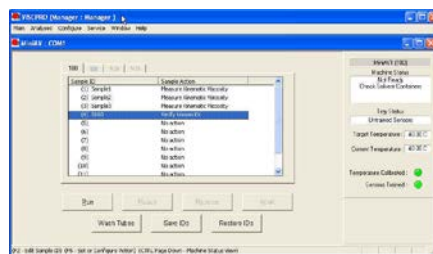

Figure 7: Sample Input Window
- Select the desired **Group Id** and Click **OK** to display the **Sample Input View** as shown in Figure 7. Then click the tray corresponding to the desired miniAV.